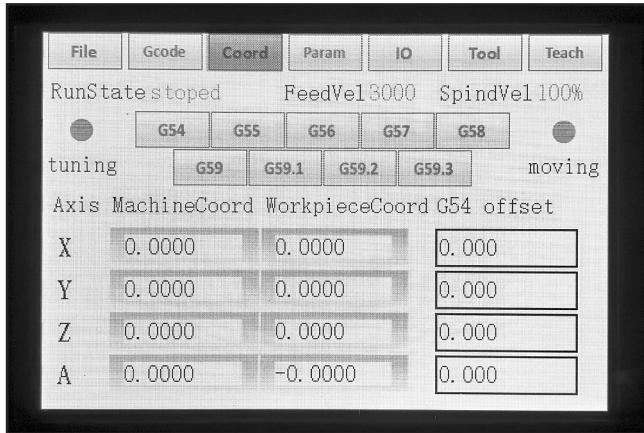

Figure 12. Example of DSP controller Coord screen.
- After approximately 10 seconds, DSP controller will finish boot sequence and show Coord screen (see **Figure 12**).